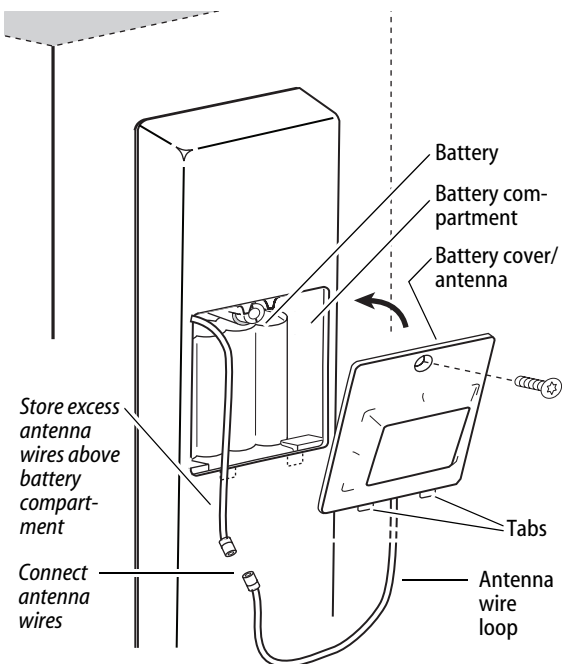

Figure 16 Installing the battery compartment door
- 1 Carefully shape the antenna wire with a loop as shown in Figure 16.
- 3 Route the antenna wire down below the battery compartment. See Figure 16.